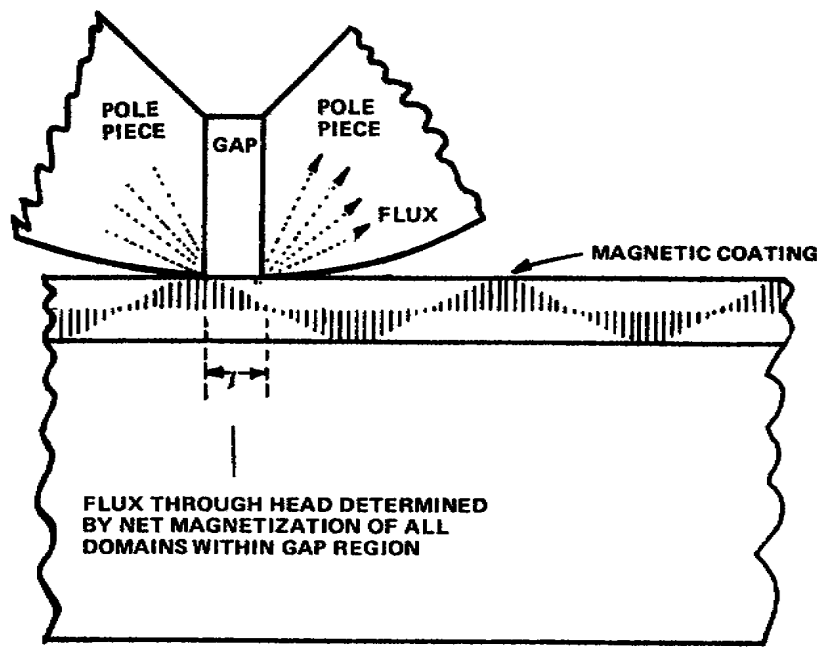

Figure 1-4. Playback process
3. The playback is accomplished by relative motion between the tape and a playback head similar or identical to the record head. As the magnetic pattern across the gap varies, the flux lines from the tape enter the core and induce a signal voltage in the coil, which depends on the number of turns in the coil and the rate of change of magnetic flux (fig 1-4). In turn, the rate of change increases directly with the increase of frequency. If the tape speed is constant and the effects of head resonance and width are neglected, the induced voltage rises with frequency at a rate of 6db per octave.